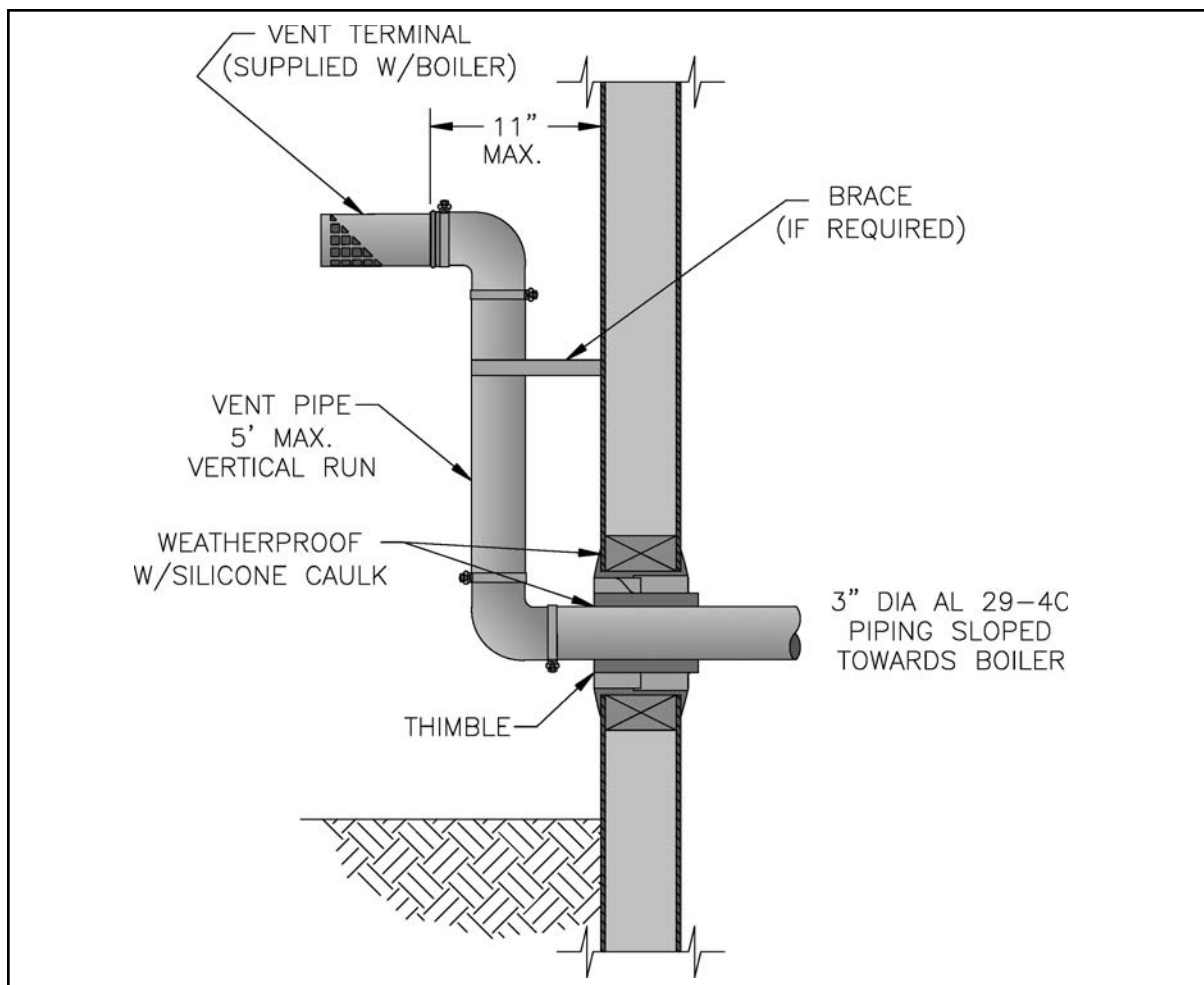

Figure 23: Optional Separate Horizontal Vent Terminal Installation
L. Optional Separate Horizontal Vent/Air Intake Terminal Mounting – See Figures 23, 24 and 25.
2. This installation will allow a maximum of five (5) feet vertical exterior run of the vent/air intake piping to be installed on separate horizontal venting and indoor air horizontal venting.
- c. Install maximum of five (5) feet of AL 29-4C® vent pipe. Refer to Sections C through E for proper procedures for joining vent pipe and fittings.